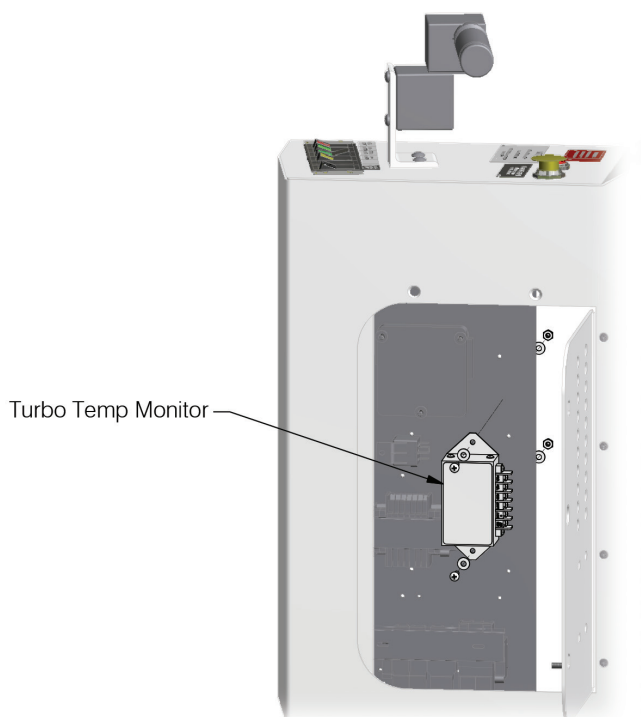

Figure 4 Install Turbo Temp Monitor
Step 4. Install the turbo temp monitor inside the left hand console as shown in **Figure 4**. Use the supplied hardware. Drill mounting holes if necessary.